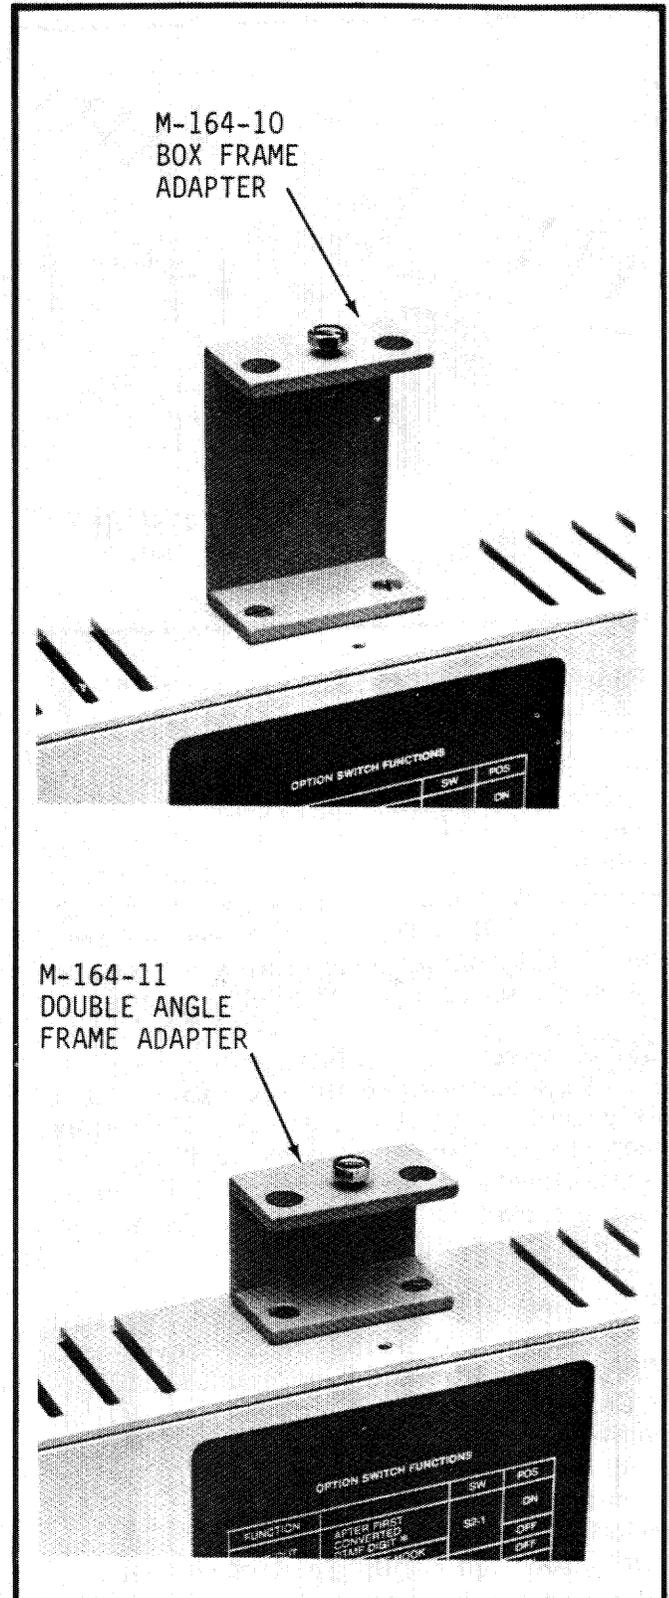

Figure 12 Install Mounting Adapter on Housing
6.25 If the desired mounting positions of the M-164's require either of the two mounting adapters, M-164-10 or M-164-11, the standard screw clamps on the housings must be removed and the special mounting adapters installed as shown in figure 12.